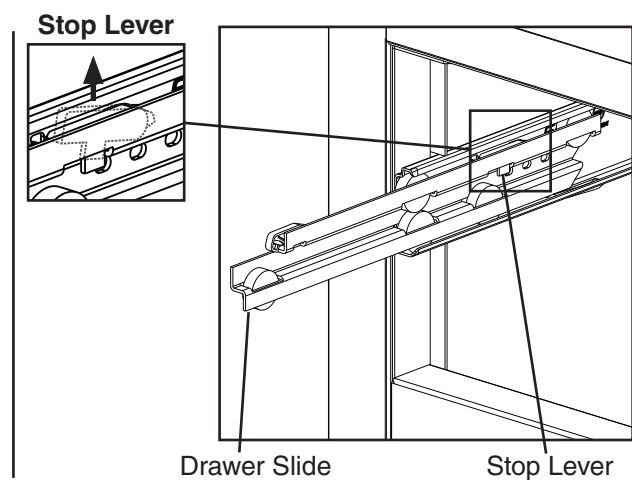

Fig. 45
- **To remove a drawer slide (center slide containing rollers):** Push up on the stop lever while pulling on the drawer slide. See Fig. 45. Drawer slides do not require lubrication, but drawer slides should be kept clean and free of food.